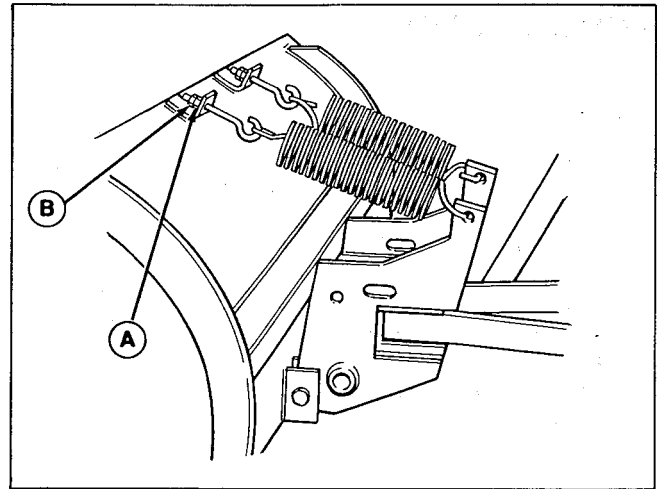

Figure 11.
This snow plow/dozer blade is spring loaded so that when the blade strikes a solid object, the springs will allow the blade to release rather than cause damage. To adjust spring tension, hold adjustment nut (A, figure 11) and loosen nut (B). Adjust rear nut (A). Tighten nut to increase spring tension or loosen to decrease. Tighten locking nut (B) so the two nuts are drawn firmly together.